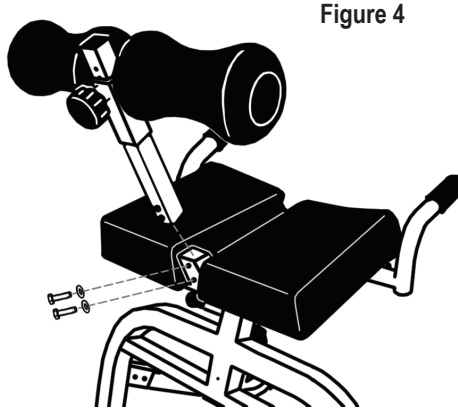

Figure 4
- Slide the Leg Support Shaft into the receiving end of the Lap Pad Assembly. (See Figure 4) Lining up the two holes, insert the Flat Washers and Hex Bolts. Secure with wrench.